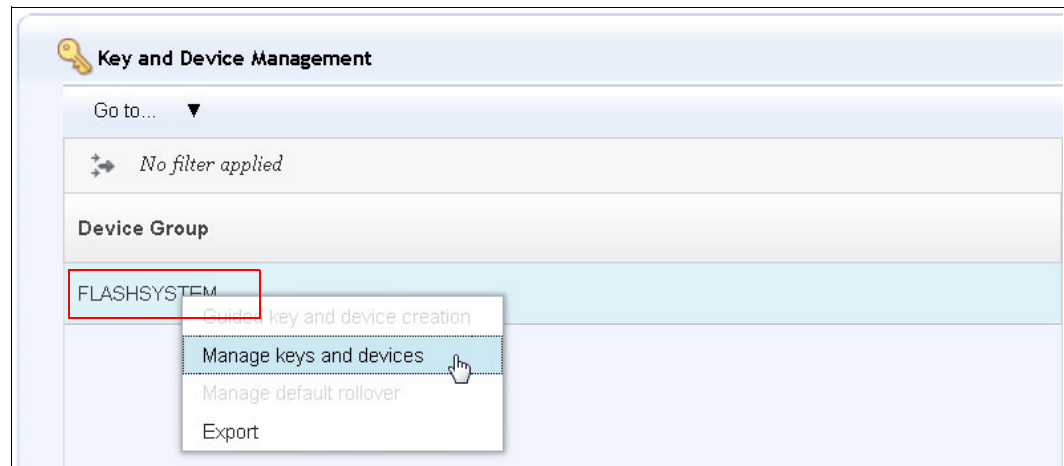

Figure 7-65 SKLM Device Group, Manage Keys and Devices
4. (Optional) To verify the new generated key in the SKLM key server, open the SKLM Welcome page, Key and Device Management. Select **FLASHSYSTEM**. Then, right-click **Manage Keys and Devices**, as shown in Figure 7-65.